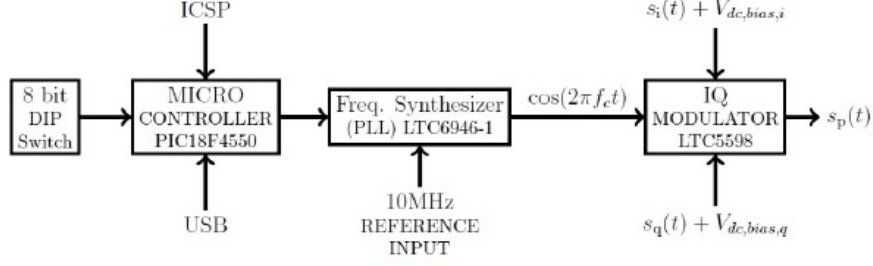

Figure 3: The block diagram of the IQ modulator board.
The block diagram of the IQ modulator board is shown in Fig. 3. It consists of several components, among which, the following ones are worth mentioning:
- (a) **The IQ Modulator IC:** In these experiments, the role of this IC is to upconvert the analog baseband I and Q signals to the passband signal  $s_p(t)$  at the carrier frequency. The local oscillator (LO) signal, i.e. the carrier frequency here, is generated by an on-board frequency synthesizer (or a phase locked loop). Internally, the IQ modulator IC uses a poly-phase filter to generate  $0^\circ$  and  $90^\circ$  phases of the carrier frequency from the LO signal. These two phases are then multiplied with the analog baseband I and Q signals  $s_I(t)$  and  $s_Q(t)$ , and the resulting outputs are combined to obtain the desired passband signal  $s_p(t)$  at the output port, as shown in Fig. 3.